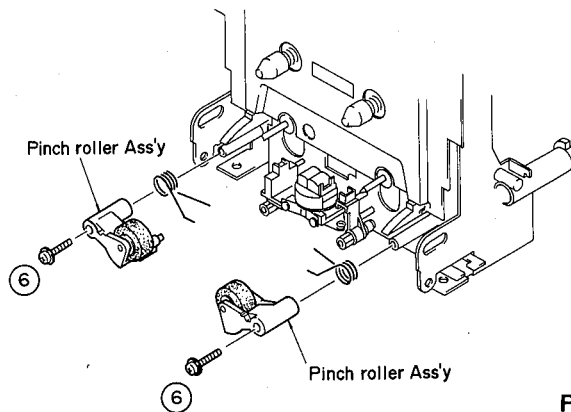

Fig. 4
- Remove the Ering (6) in Fig. 4.